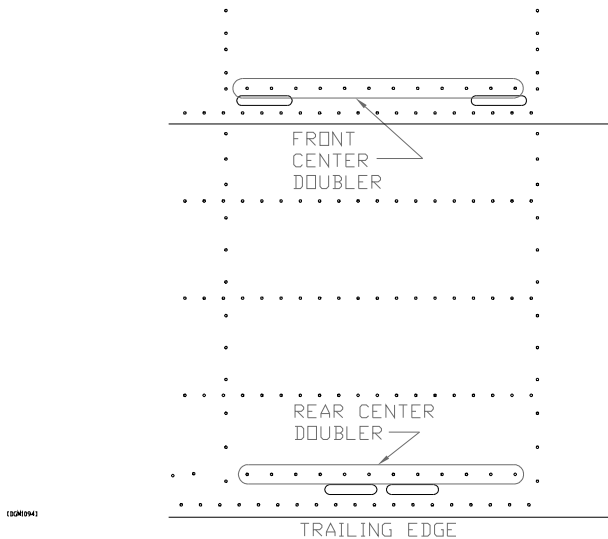

Figure 2.9.3
9. Drill #40 through the Front and Rear Spar Doubler. Figure 2.9.3.